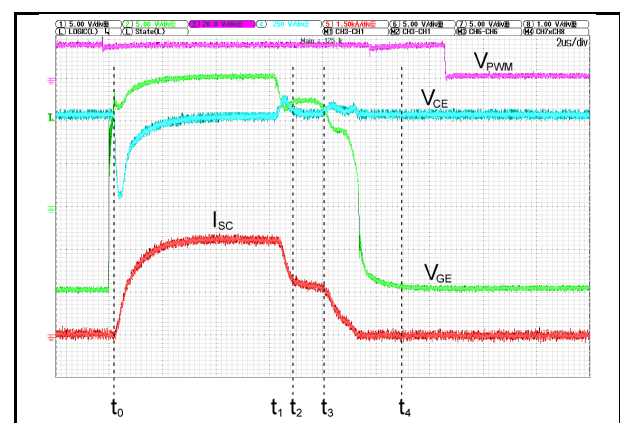

Figure 6. Advanced Soft Shut Down (ASSD).
To ensure that the gate-emitter/source voltage stays close to the nominal turn-on voltage each MAG features a gate-clamping circuitry. The gate clamping provides a voltage similar to V_{VISO} to the gate, i.e. 15 V. As the effective short-circuit current is a function of the gate-emitter/source voltage the short-circuit current is limited. This is shown in Figure 6 in the time period from t_0 to t_1 , where the short-circuit current is kept at a flat plateau. As consequence the energy dissipated in the power semiconductor during the short-circuit event is reduced, leading to a junction temperature within the short-circuit safe operating area (SCSOA) limits and enables a safe turn-off of the device.
- In the first step, the gate-emitter/source voltage is decreased to a defined level controlled with the closed loop feedback (Figure 6, t_1 to t_2).
- The defined level of the gate-emitter/source voltage is kept steady to ramp down the collector/drain current smoothly, i.e. with lower di/dt , until the gate charge profile of the power semiconductor has reached the end of the Miller plateau. The end of the Miller plateau is detected by evaluating the gate current (Figure 6, t_2 to t_3).
- The gate-emitter/source voltage is then reduced to its end value, following a given reference value (Figure 6, t_3 to t_4).